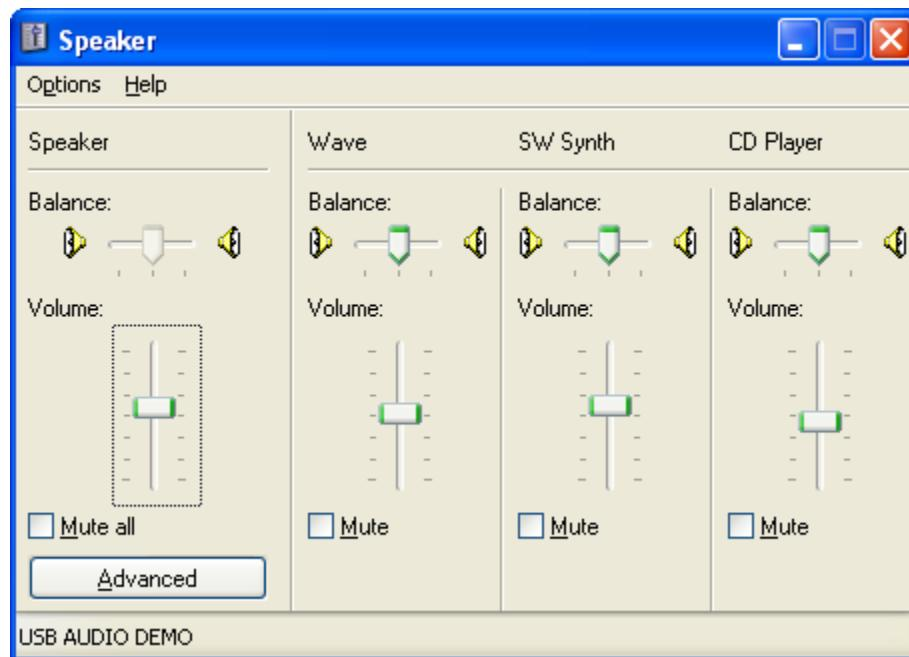

Figure G-7. Master volume
- To verify whether the USB Audio Device has been selected as the default device or not, you must right-click on master volume icon. Master volume dialog appears as shown in Figure G-7.